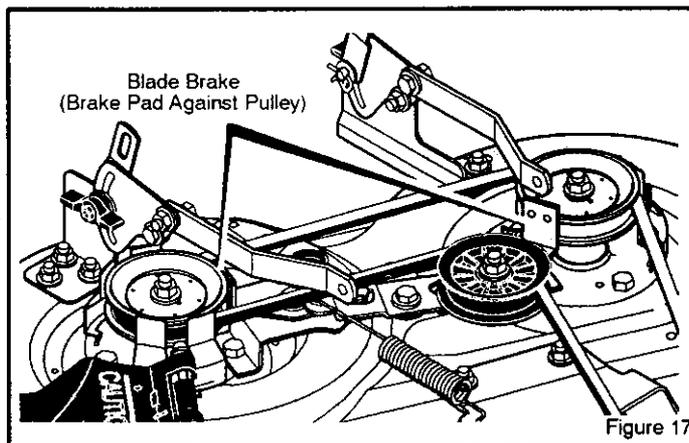

Figure 17
8. Move the blade rotation control to the **DISENGAGE** position. Stop the engine. Disconnect the wire from the spark plug. Check the operation of the blade brake. Rotate the pulleys with your hand. Make sure the **brake pads** are pressed tightly against the pulleys (Figure 17).